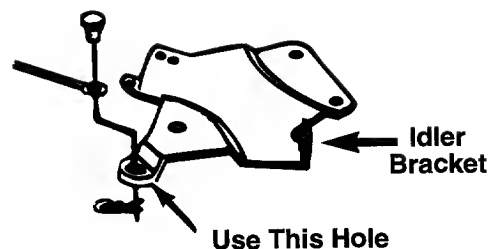

FIGURE 16.—Underneath Tractor
11. **Models 145V834H and 145W834P:** Secure the brake release cable to the tractor idler bracket with clevis pin and small hairpin clip, using the hole in the idler bracket as shown in figure 16.